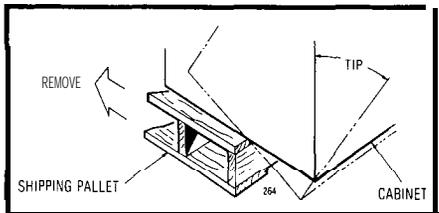

Fig. 401-2
- [2A] Position equipment so that approx. ten inches of cabinet overhangs shipping pallet (Fig. 401-2)
REMOVE SHIPPING PALLET (FIG. 401-2)